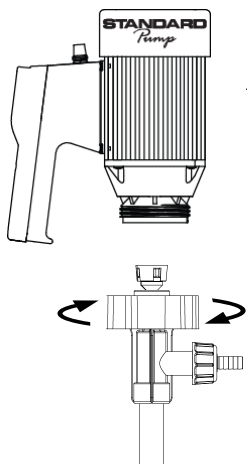

Figure 2
2. For a more thorough cleaning remove the motor from the pump tube by loosening the connection nut (see Figure 2).